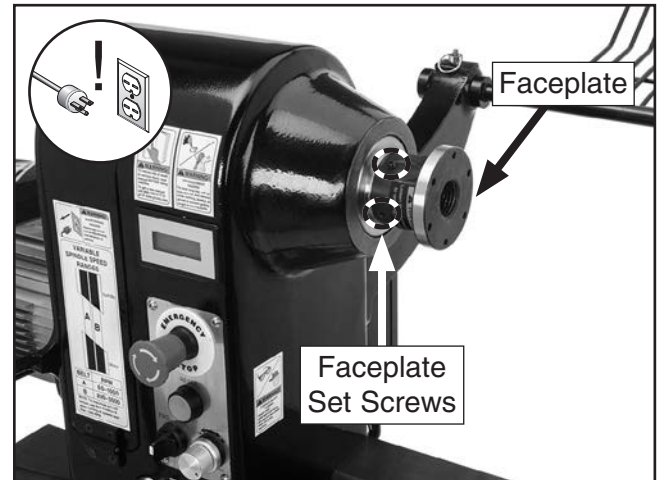

Figure 36. Location of faceplate set screws.
3. Thread faceplate onto spindle until it is snug (see **Figure 36**).
4. Tighten (2) M6-1 x 10 set screws along inside diameter of faceplate to secure it to spindle (see **Figure 36**).